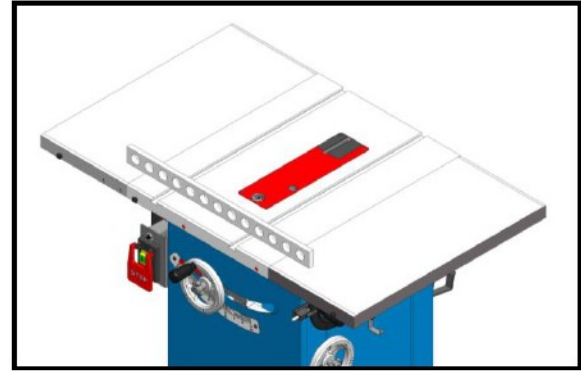

Figure 20
5.) Use a straightedge to determine whether the insert is level with the table top. (If not level or flush adjust the set screws located beneath the insert until this is achieved.) See Figure 20 below.